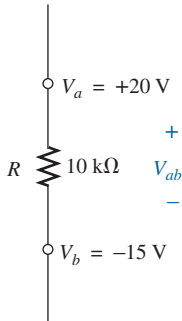

**FIG. 5.52**
**EXAMPLE 5.21** Find the voltage  $V_{ab}$  for the conditions in Fig. 5.52.